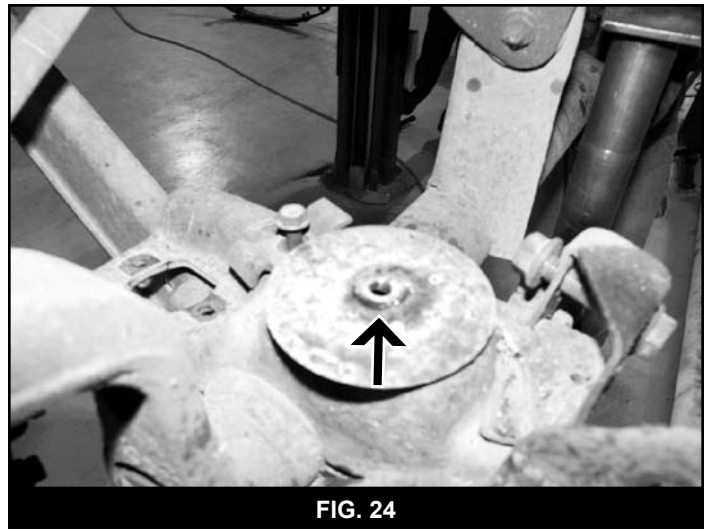

FIG. 24
62. Locate and drill a 5/16" hole in the center of the front coil spring axle mounts (Fig 24). Use a provided 3/8" x 4" self-tapping bolt to cut the threads for the bump stop extension (3396). Remove the bolt and save for installation of bump extensions later.